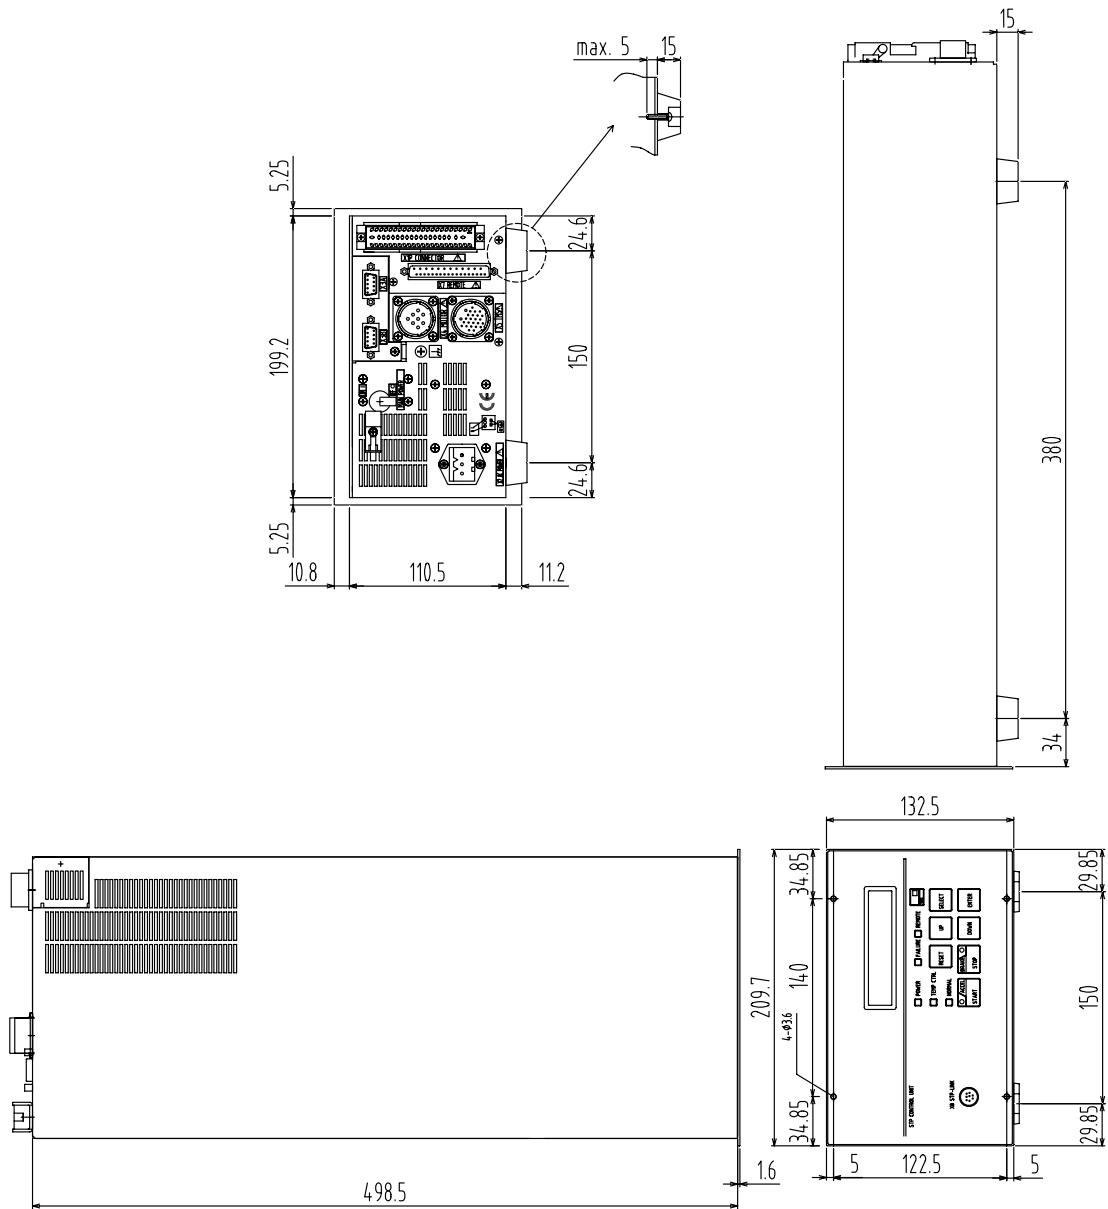
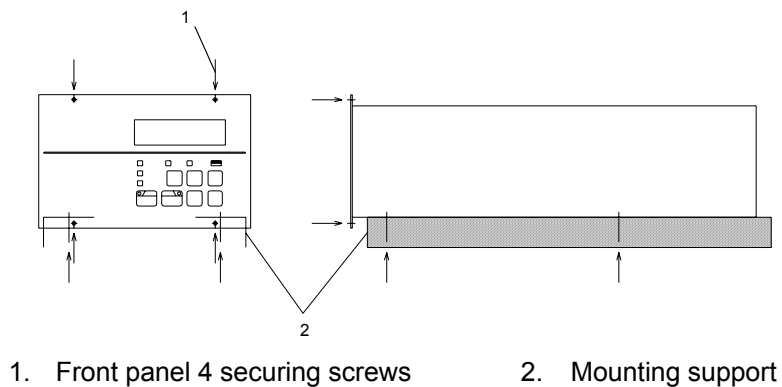

Figure 9 - SCU-1600 dimensions (mm)
Figure 13 - Example of securing the SCU-1600
Note: For the dimensions of the front panel and positions of the screw holes for the rubber feet, refer to Figure 9 and Figure 13.
- Attach the front panel to the rack using the 4 screws Figure 13 (1).
- Support the SCU-1600 from the bottom using a support angle Figure 13 (2) or a similar tool.